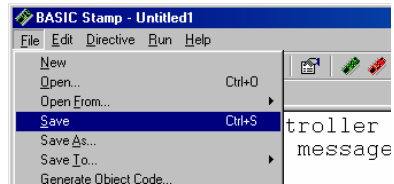

Figure 1-38
- ✓ Save your work by clicking File and selecting Save, (shown in Figure 1-38).